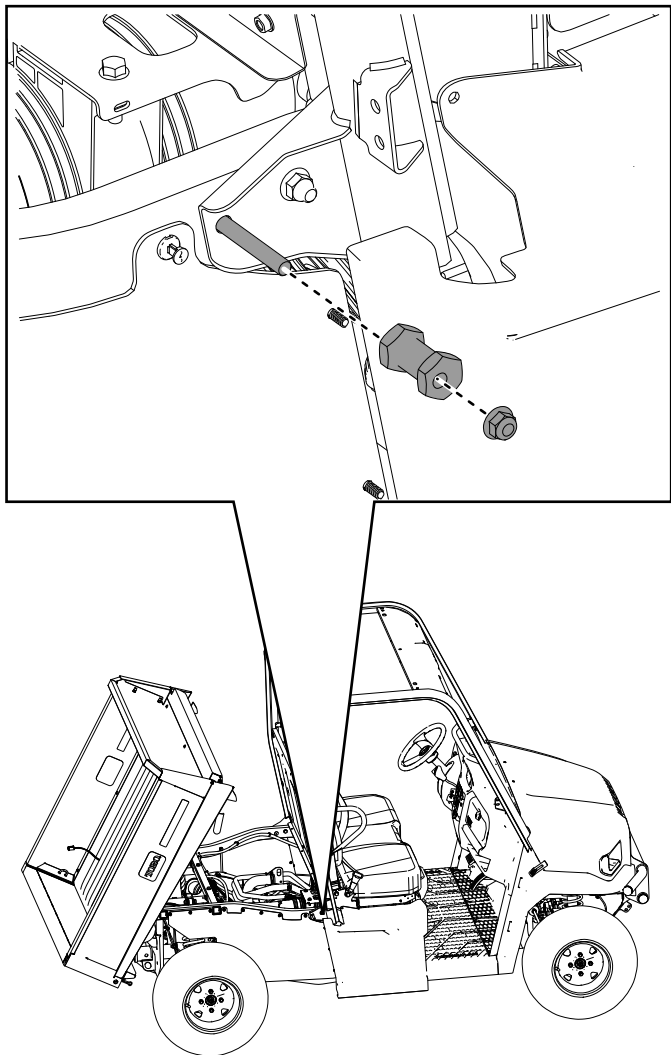

Figure 31
19. Install the previously removed locknuts (3/8 inch) and latch pins to the right and left, rear frame tubes (Figure 31).